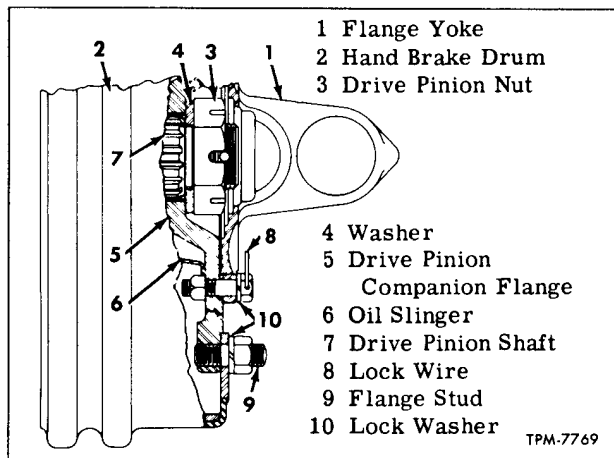

Figure 2—Propeller Shaft Installation At Rear Axle
2. Remove lock wire, nuts, lock washers, and bolts attaching propeller shaft flange yoke to drive pinion companion flange (fig. 2).